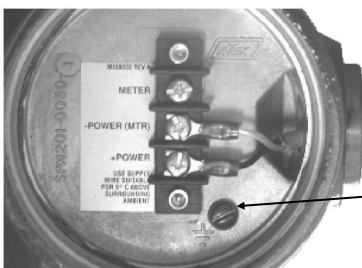

Figure 2-12 — Ground connection on transmitter housing
A terminal is available on both the outside of the housing and in the plug for grounding (PE) the transmitter. Both terminals are electrically connected to one another (see Figure 2-12).